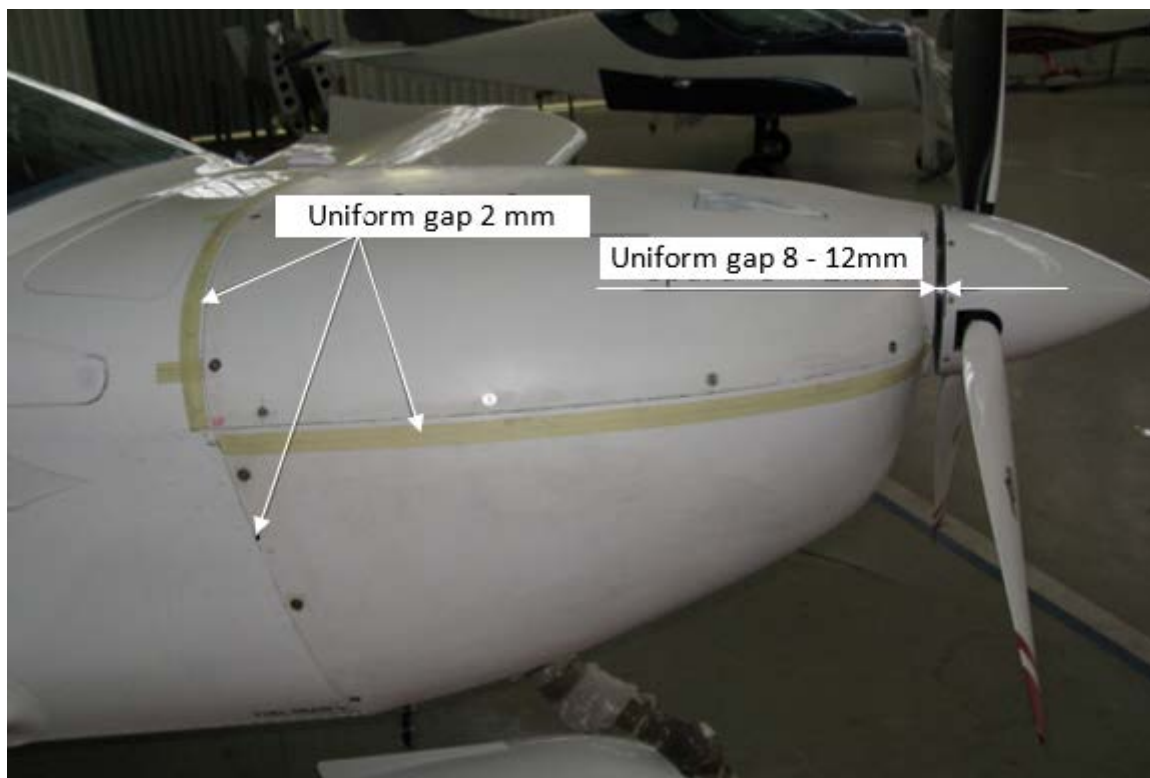

Figure 17: Uniform gaps along margins of the cowlings
20. Use CAMLOC lockers and install the upper and lower cowling on the airplane. Modify the cowlings margins in order to get a uniform gap of about 2 mm (see Figure 1, Figure 17):